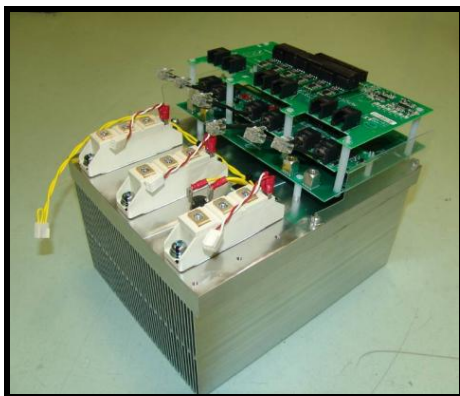

Figure 7.3.26
See the figure 7.3.26 while following the next instructions:
- 2) Put them over the heatsink, matching the holes of the thyristor with the holes of the heatsink as the figure 7.3.26 shows.